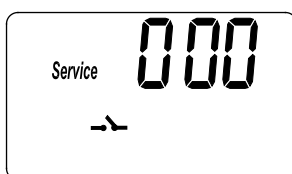
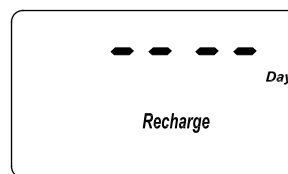

FIG. 27
FIG. 30
1. Press and hold the PROGRAM button until the screen in Figure 27 is displayed. Once in this display, press the PROGRAM button twice and one of the two displays in Figure 28 is shown.
1. Press and hold the PROGRAM button until the screen in Figure 27 is displayed. Once in this display, press the PROGRAM button three times and the display in Figure 29 is shown.
1. Press and hold the PROGRAM button until the screen in Figure 27 is displayed. Once in this display, press the PROGRAM button four times and the display in Figure 30 is shown.
1. Press and hold the PROGRAM button until the screen in Figure 27 is displayed. Once in this display, press the PROGRAM button five times and one of the two displays in Figure 31 is shown.